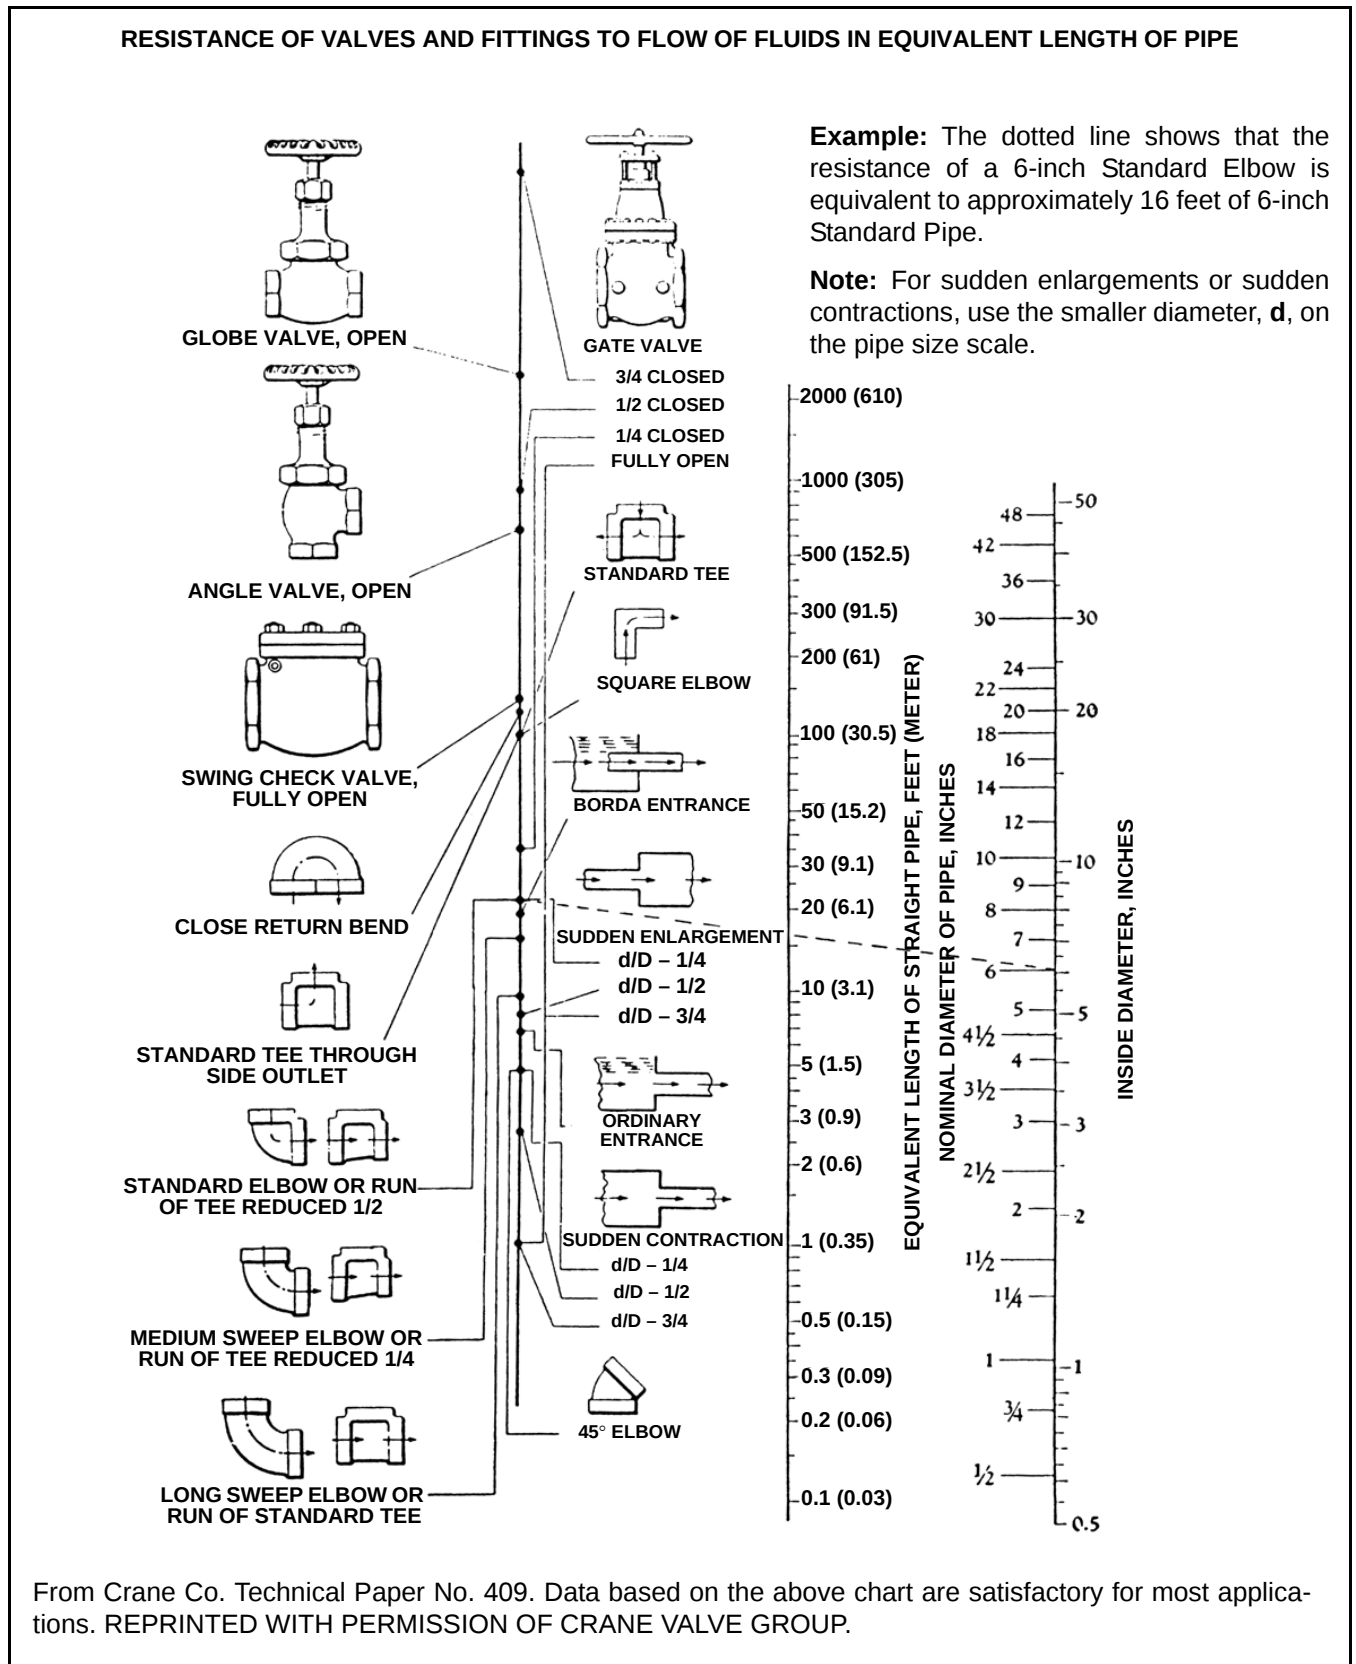

Figure 8-17 Equivalent Pipe Length Of Fittings In Feet (meters)
Figure 8-17 gives equivalent pipe length in feet for various pipe fittings. For each pipe size, sum the EPLs and add them to the total length of straight pipe of that size to find the total of each pipe size.
6. Determine the equivalent pipe length: $EPL_6 = 50 \text{ ft. pipe} + (7 \text{ elbows} \times 5 \text{ ft./elbow}) + 50 \text{ ft./globe valve} = 135 \text{ ft.}$	Figure 8-17